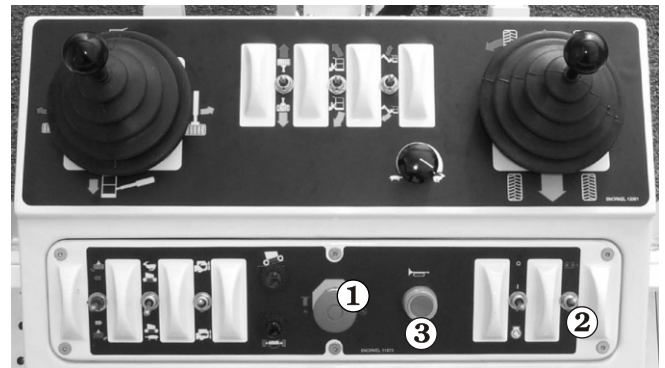

Figure 3.2—Platform Controls (Electric Controls)
Press the large red **EMERGENCY STOP**① (refer to Figure 3.2 and 3.3) button in and the entire machine stops, the engine turns off, and nothing moves. This button must be out (on) to control the
The horn (refer to Figure 3.2 and 3.3^③) may be used to warn personnel on the ground. The horn is operational when the machine is set up for operation from the upper controls.